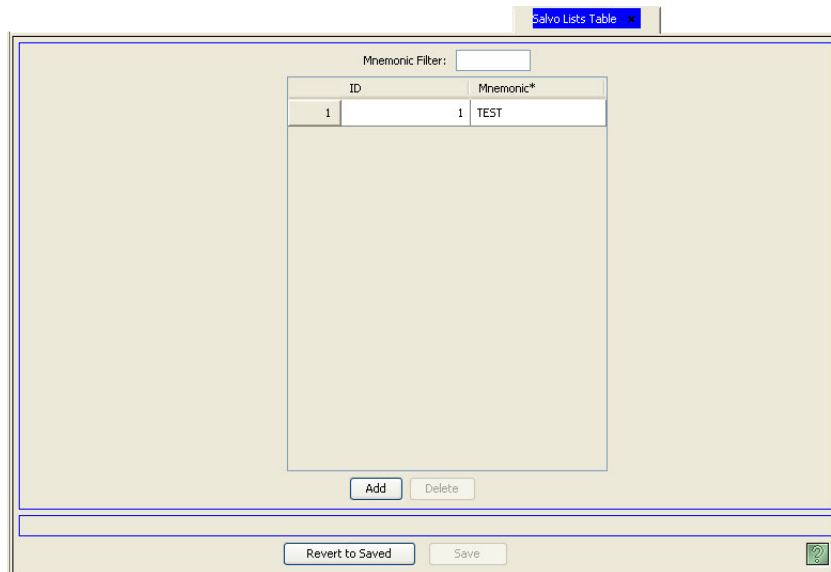

Figure 15-13. Salvo List Table
- 2 From the Navigation area, select the ‘Views’ pane and then ‘Salvo List’. The ‘Salvo List’ table appears, as shown in Figure 15-13.
- 3 Click Add. A blank row appears at the bottom of the list of salvos, as shown in Figure 15-13.